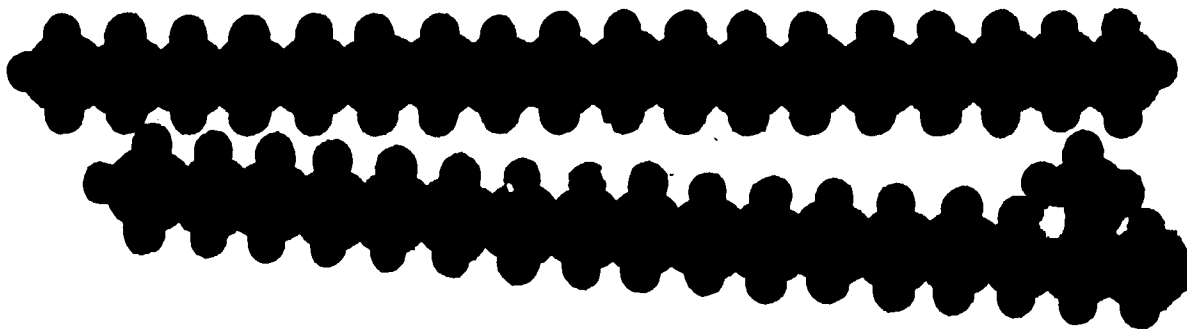
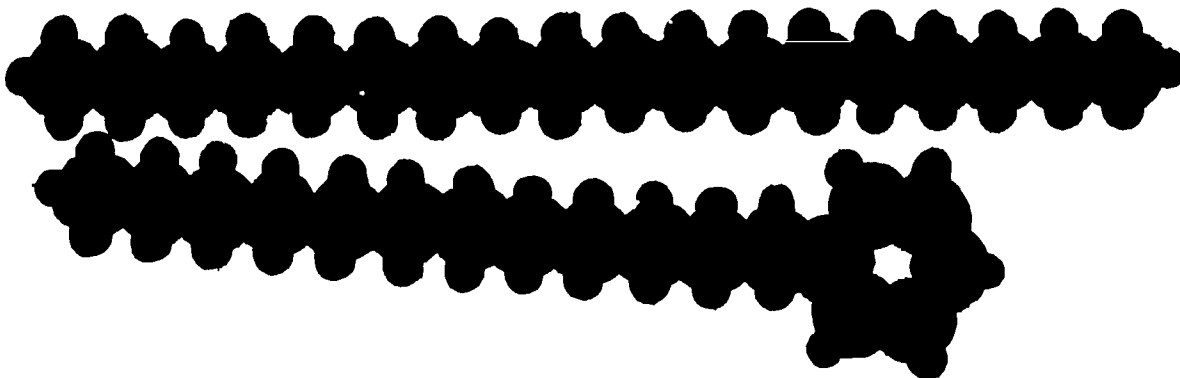

Fig. 2-34
Fig. 2-35
If a large hydrocarbon molecule has even one small projection or bend in it, as in Figs. 2-34 and 2-35, it will not come close to the next one at enough places to freeze, as the weak attractions will not be lined up perfectly.
3. Shape of the molecule. Thin molecules slide about more easily than wide ones. Lubricating oils of the paraffinic type (Fig. 2-34) have open or branched chains; naphthenic ones (Fig. 2-35) have ring structures. For a given number of carbon atoms, the ring types give higher viscosity.